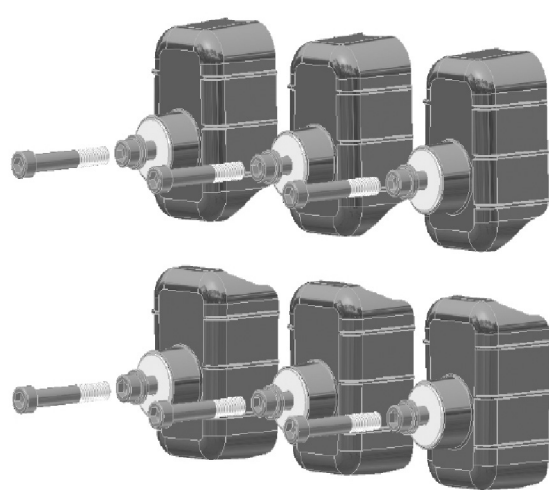

Figure 10
1) Parameter describes the distance between busbar connection points on the upper and lower terminals of the ISM15_Shell_2 per Figure 10 and Figure 11.